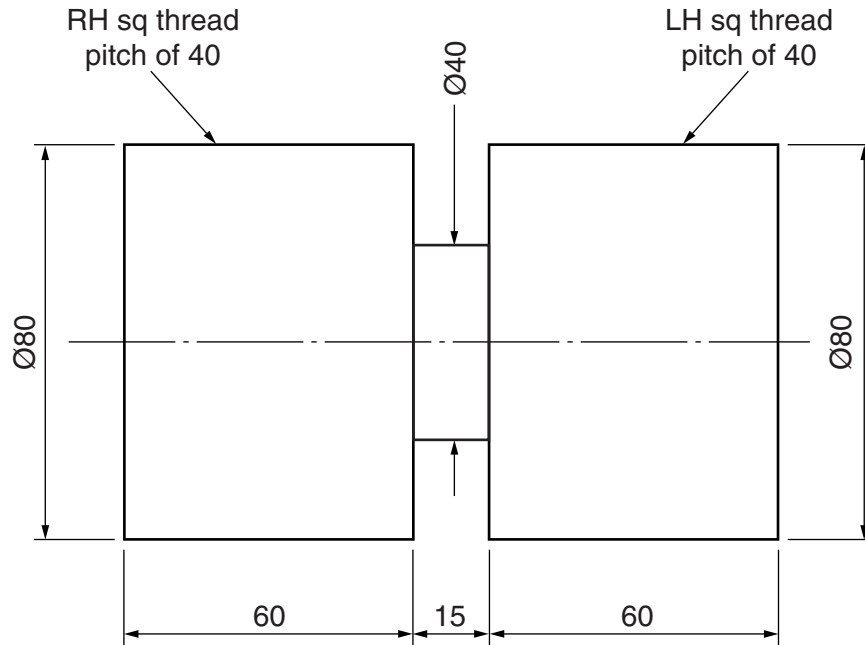

Fig. 7
- 7 Fig. 7 shows details of the blank for a threaded coupler. When complete, the blank has a left and right hand square thread machined at opposite ends.